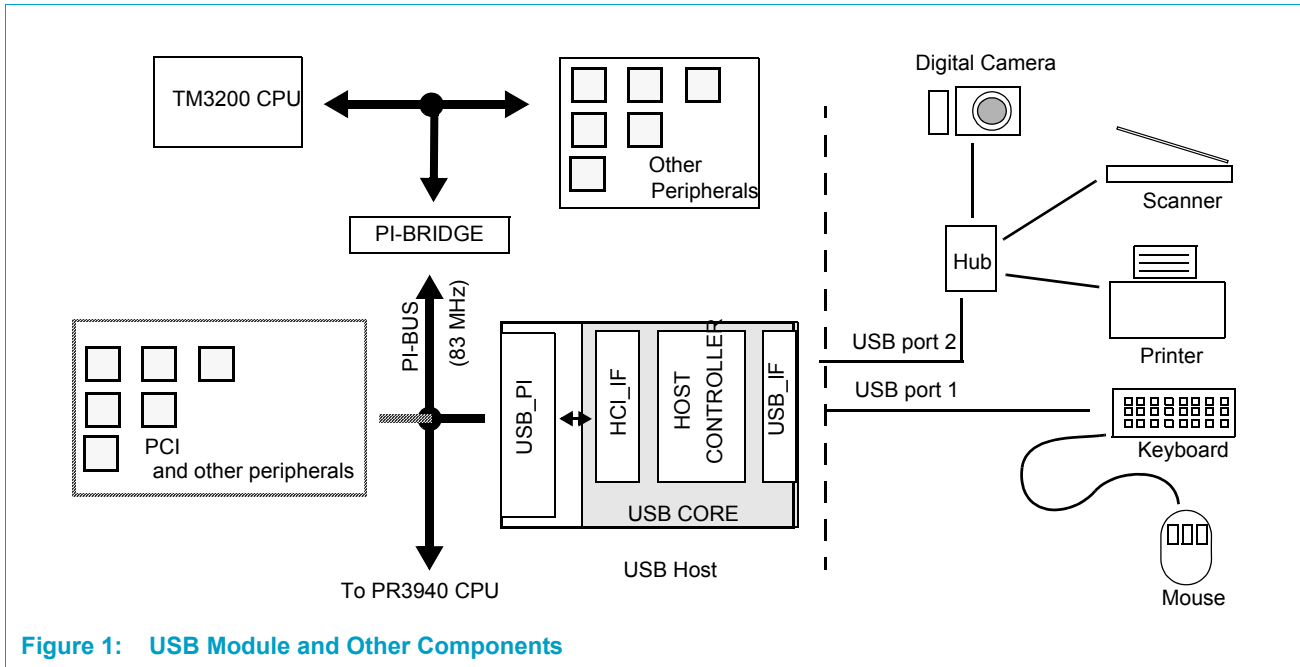

Figure 1: USB Module and Other Components
**Figure 1** shows the various components and how the USB module integrates with the PNX8526. The USB module connects to the PI-Bus. The USB\_PI block of the USB module interfaces to the PI-Bus. The USB\_PI also interfaces to the uhostc block, the core of the USB module. The USB\_PI and the uhostc blocks communicate using the OHCI standard protocol
The USB devices shown in Figure 1 are merely suggestive. It is important to note that logically, communication is always USB host—device, regardless of cabling.